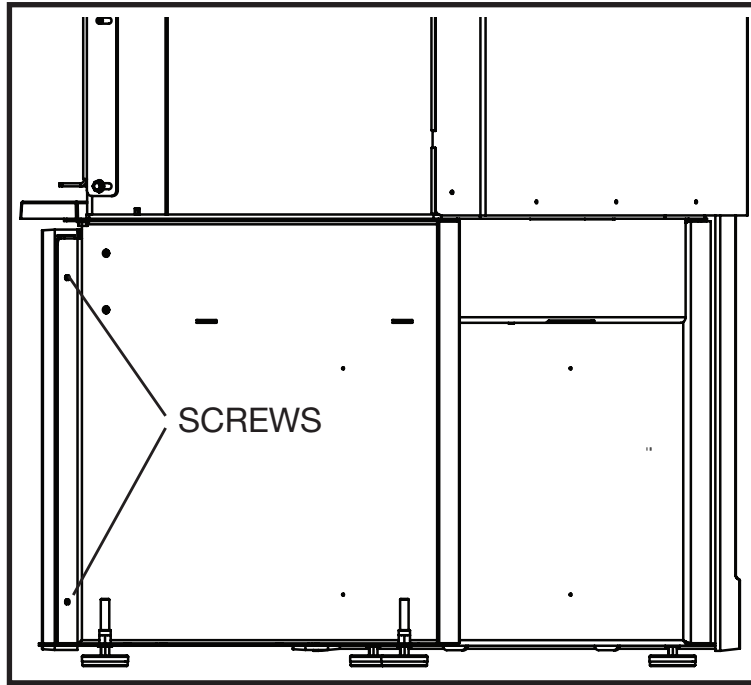

Figure 6: Front leg cover screws.
7. Remove the two screws securing the front leg cover to the leg (Figure 6).